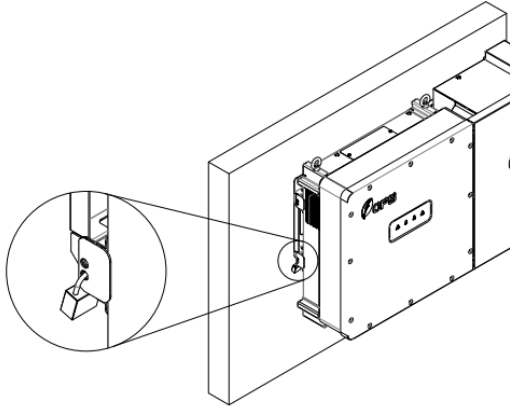
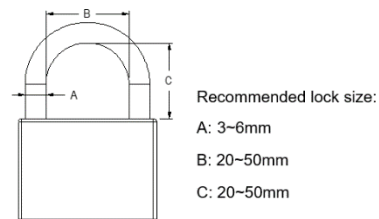

Figure 3-20 Location of the Anti-Theft Padlock
Figure 3-21 Dimensions of Anti-Theft Padlock
7. **OPTIONAL:** Install an anti-theft padlock. The anti-theft padlock is used to prevent the inverter from being stolen when the equipment is installed outdoors. The inverter can be locked to the bracket as shown in Figure 3-20. The anti-theft padlock should meet the dimensional requirements shown in Figure 3-21.